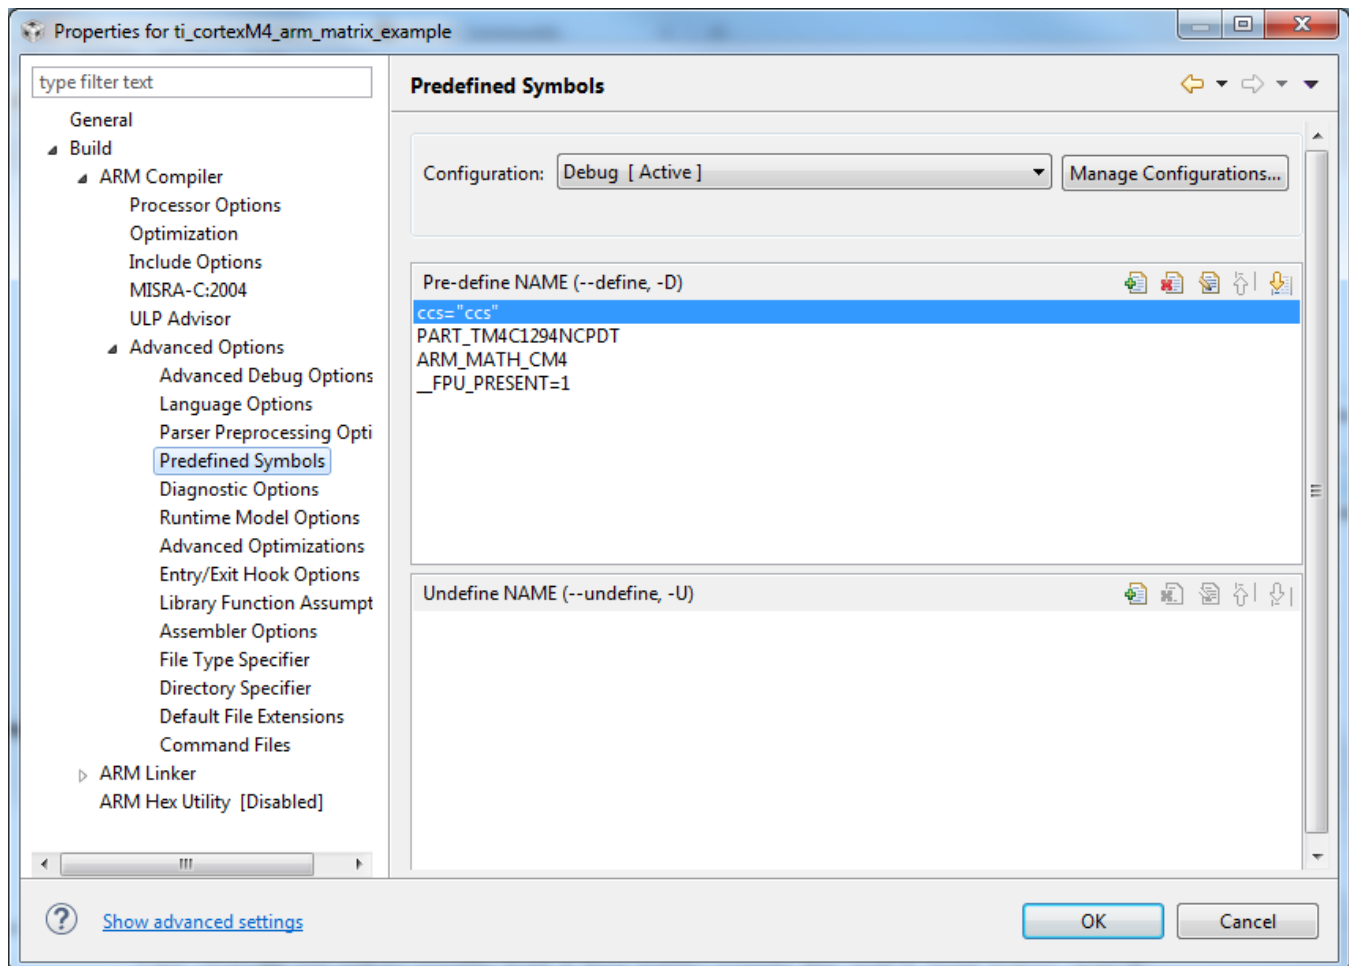

Figure 20. Adding the Pre-Processor Statements Necessary for Building an Example Project on a Cortex-M4 Part With Hardware FPU Support
7. Expand the Advanced Options menu again and select the Predefined Symbols panel. Create a symbol to tell the DSP library to use Cortex-M4 based math functions. Click the *Add...* button in the *Pre-define NAME (--define, -D)* area. In the *Enter Value* dialog box, type ARM_MATH_CM4 into the *Pre-define NAME (--define, -D)* field and click **OK** (see Figure 20). Click the *Add...* button in the *Pre-define NAME (--define, -D)* area. In the *Enter Value* dialog box, type __FPU_PRESENT=1 into the *Pre-define NAME (--define, -D)* field and click **OK**.